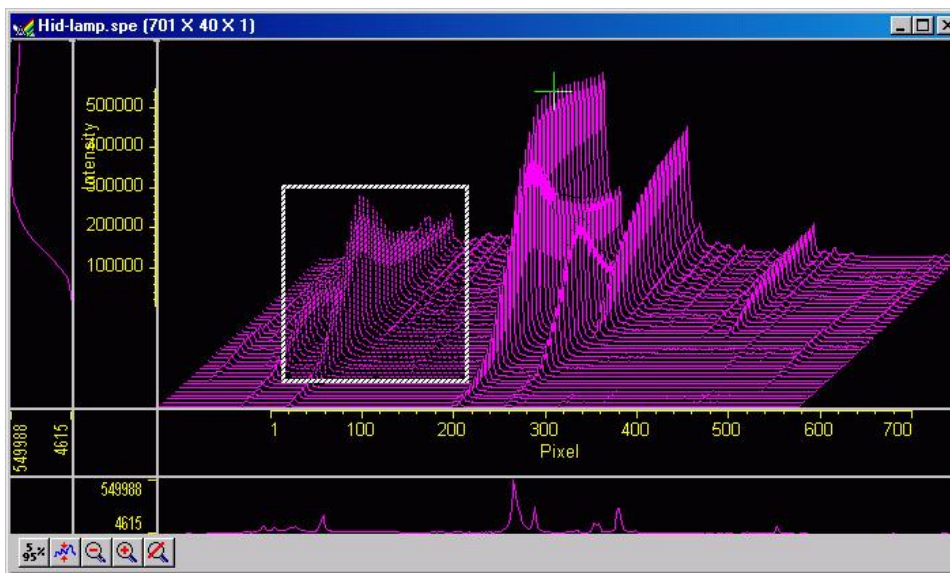

Figure 79. Hid-lamp.spe 3D graph with region selected for viewing
- Using the mouse, drag a rectangular region on the image as shown in Figure 79.